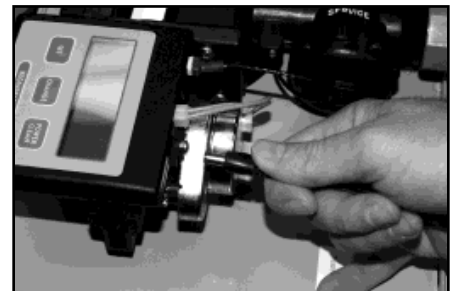

Figure 7: Connect Power Cord
- A. Connect the transformer power cord to the back of the controller. (See Figure 7)